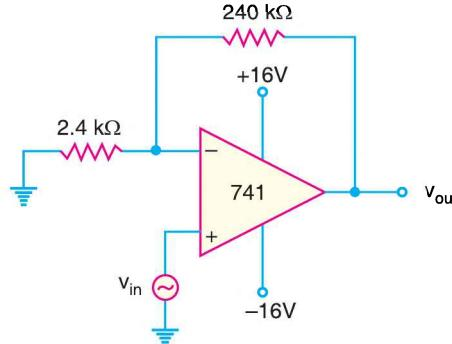

Fig. 25.57
**Example 25.32.** Calculate the output voltage from the noninverting amplifier circuit shown in Fig. 25.57 for an input of  $120 \mu V$ .